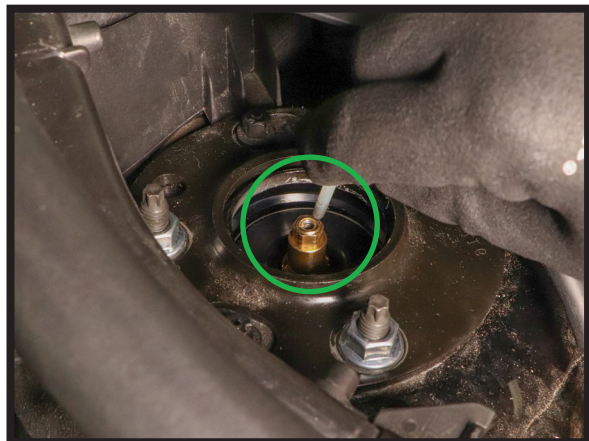

FIGURE 39
10. CONNECT THE AIR LINE TO THE STRUT AIR FITTING. PUSH IN UNTIL LINE IS FIRMLY SEATED. (FIGURES 39, 40)